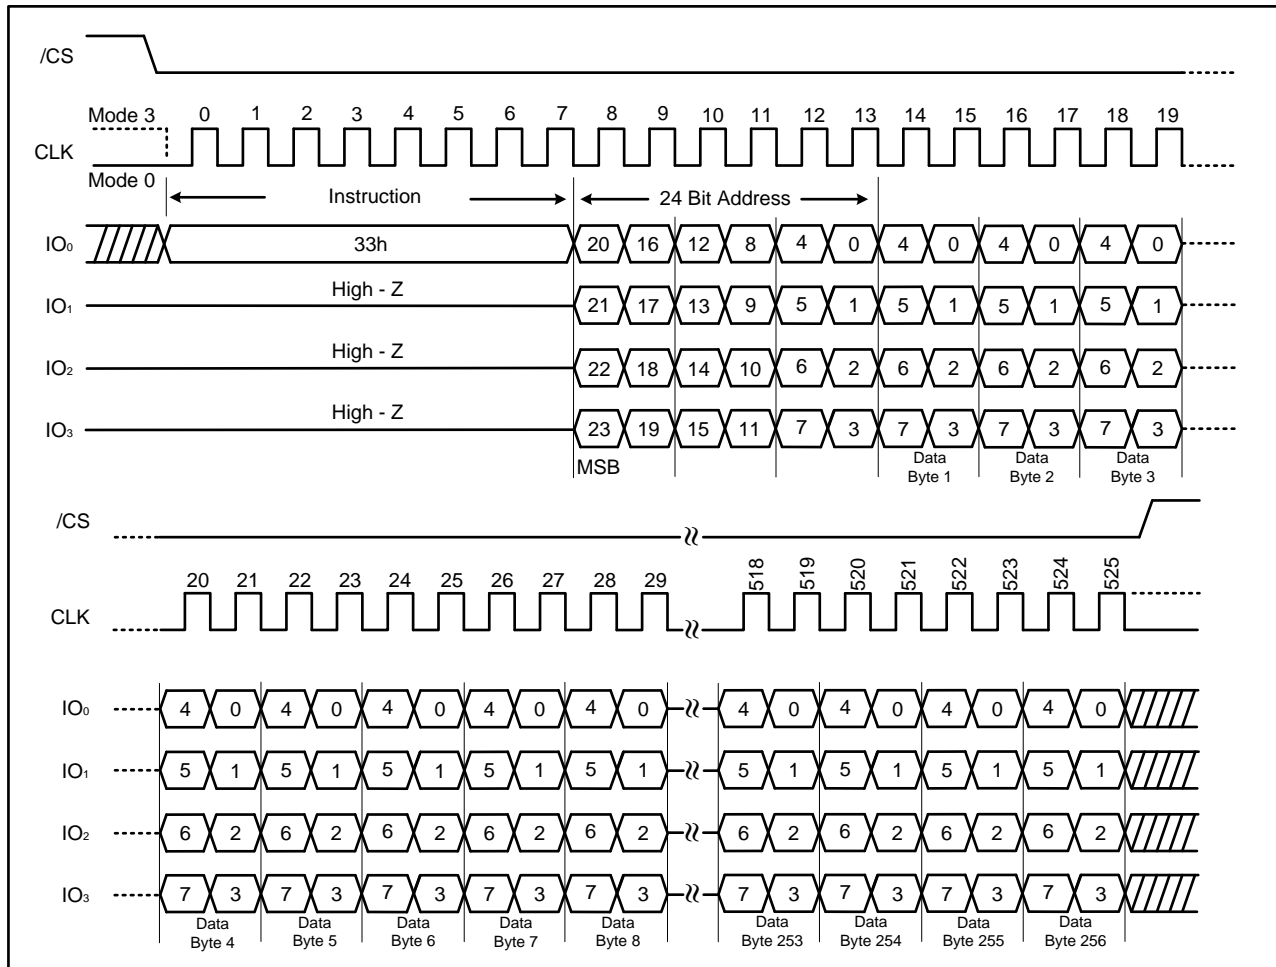

Figure 21. Quad Page Program Instruction (SPI Mode only)
The Quad Page Program (33h) instruction is similar to the Quad Input Page Program (32h) instruction except that address and data bits are both input and output through four pins IO0, IO1, IO2 and IO3. The Quad Page Program can improve performance for PROM Programmer and applications that have slow clock speeds <5MHz. Systems with faster clock speed will not realize much benefit for the Quad Page Program instruction since the inherent page program time is much greater than the time it take to clock-in the data. To use Quad Page Program the Quad Enable (QE) bit in Status Register-2 must be set to 1. The Quad Page Program instruction sequence is shown in Figure 21.